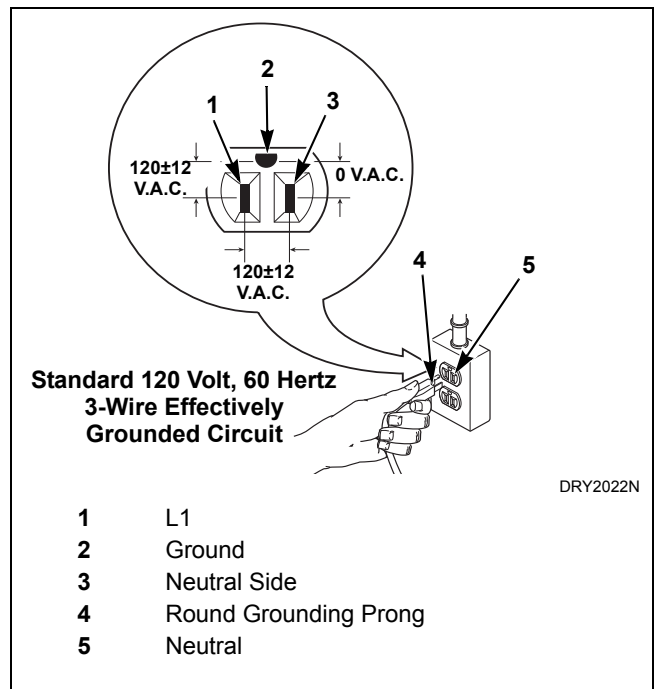

Figure 17
The three-prong grounding plug on the power cord should be plugged directly into a polarized three-slot effectively grounded receptacle rated 110/120 Volts AC (alternating current) 15 Amps. Refer to *Figure 17* to determine correct polarity of the wall receptacle.
**NOTE: Have a qualified electrician check the polarity of the wall receptacle. If a voltage reading is measured other than that in *Figure 17*, the qualified electrician should correct the problem.**